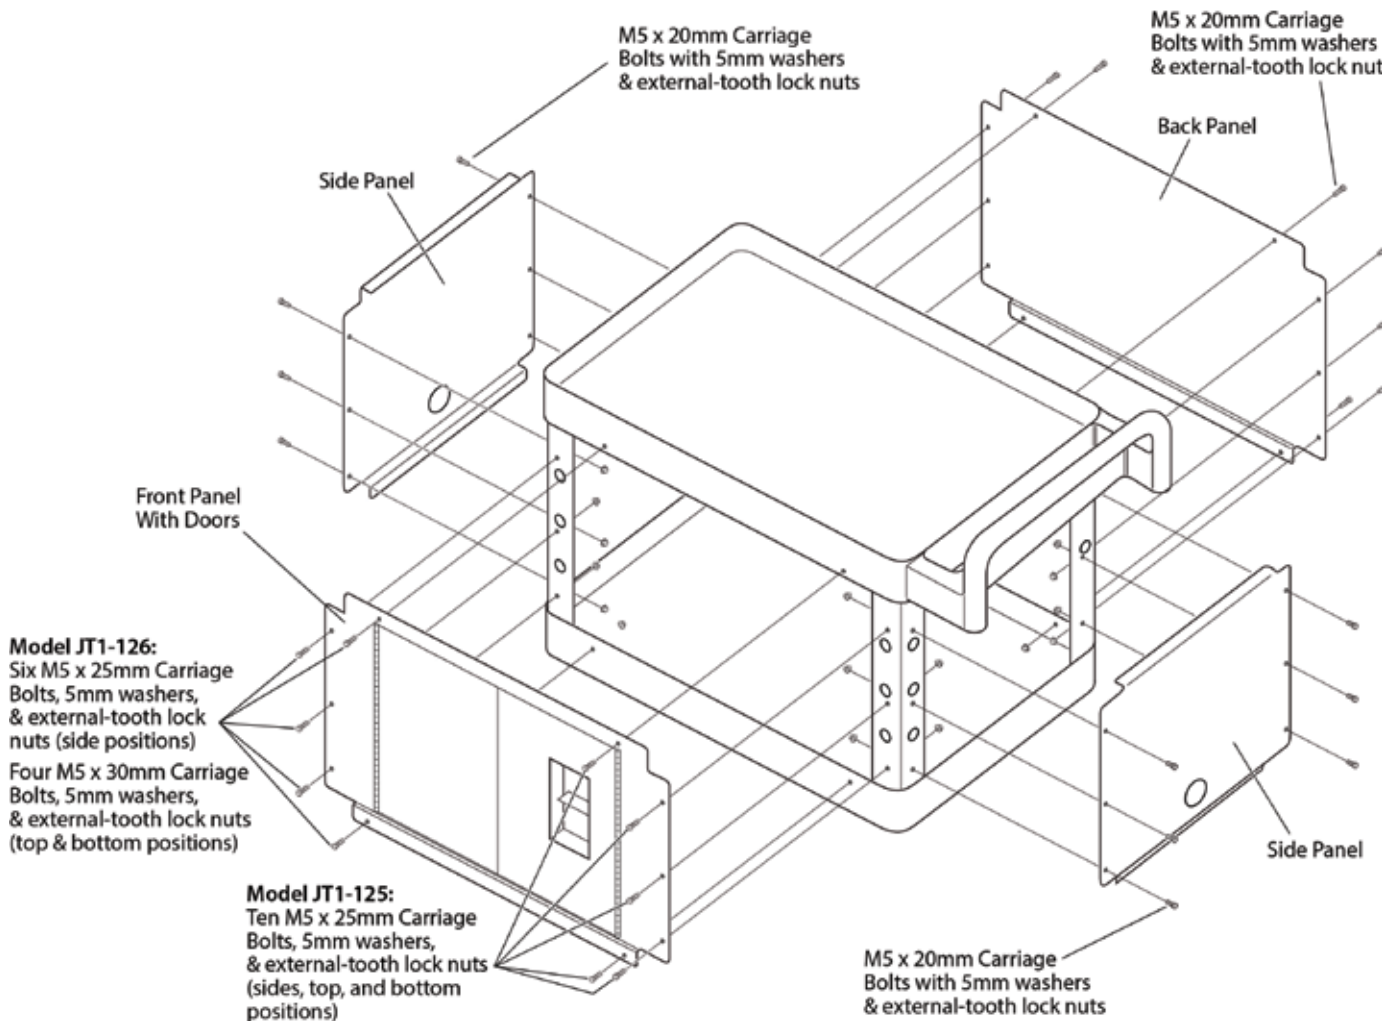

Figure 1: Installing LOAD-N-LOCK™ Utility Cart Security System Panels
Refer to Assembly Illustration (Figure 1) on Page 3
2. Lay the front door panel in place on the cart as shown in Figure 1. Cut the zip tie to release the latch. Rotate the latch to allow the front door panel to rest flat against the cart. Make sure the panel is centered side to side within the opening. Push the panel to the top of the cart opening.